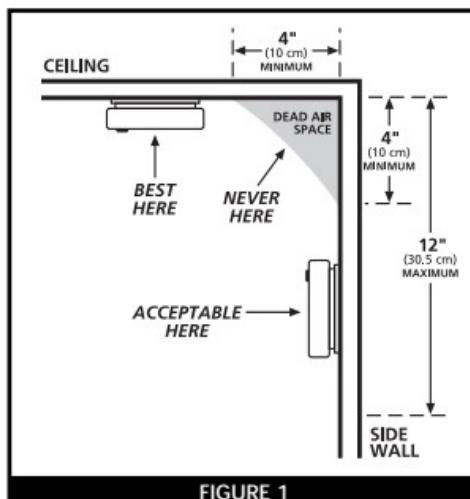

FIGURE 1
- When mounting an alarm on the ceiling, locate it at a minimum of 4" (10cm) from the side wall (see figure 1).
- When mounting the alarm on the wall, use an inside wall with the top edge of the alarm at a minimum of 4" (10cm) and a maximum of 12" (30.5cm) below the ceiling (see figure 1).
Modern mobile homes have been designed and built to be energy efficient. Install smoke alarms as recommended above (refer to RECOMMENDED LOCATIONS and Figures 1 and 2).
In older mobile homes that are not well insulated compared to present standards, extreme heat or cold can be transferred from the outside to the inside through poorly insulated walls and roof. This may create a thermal barrier which can prevent the smoke from reaching an alarm mounted on the ceiling. In such units, install the smoke alarm on an inside wall with the top edge of the alarm at a minimum of 4" (10cm) and a maximum of 12" (30.5cm) below the ceiling (see figure 1).